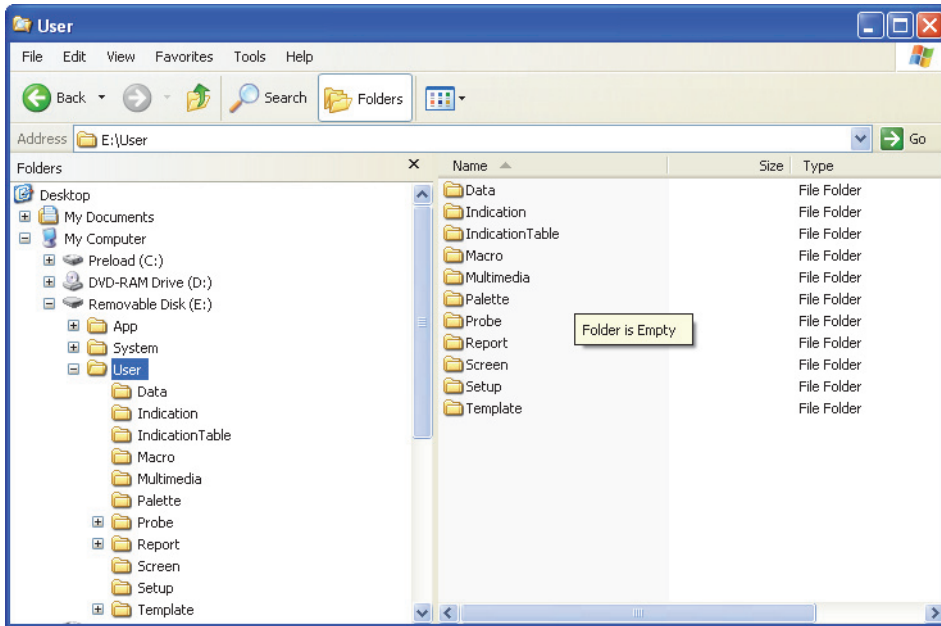
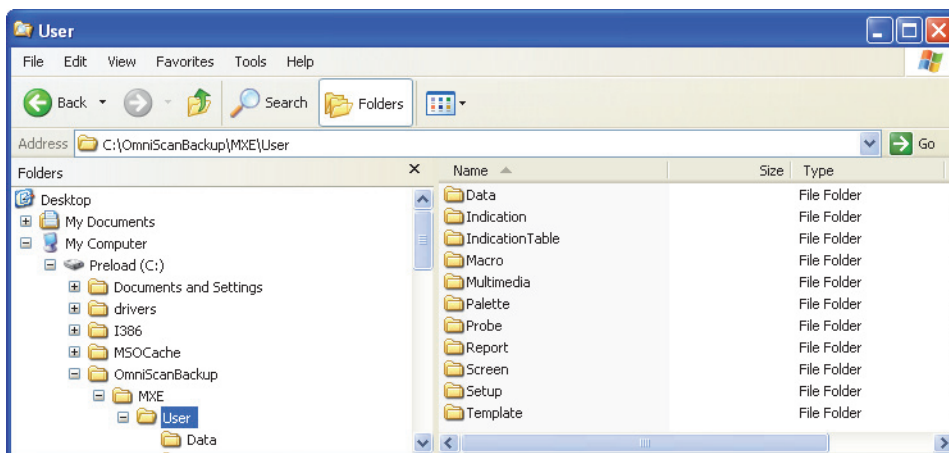

Figure 4-26 The User folder for the MXE application on the storage card
Figure 4-27 The User folder for the MXE application copied to the backup folder
- Using Windows Explorer, copy the **User** folder from the USB storage device (shown for **E:\User** in Figure 4-26 on page 88) to the backup folder you created in the previous step on your local drive (see Figure 4-27 on page 89).